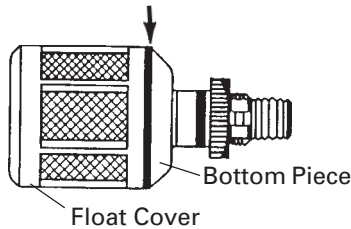

Figure 5
2. Using a knife edge, carefully pry apart the float cover and bottom piece (See Figure 5).